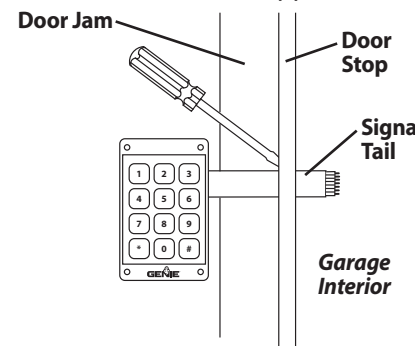
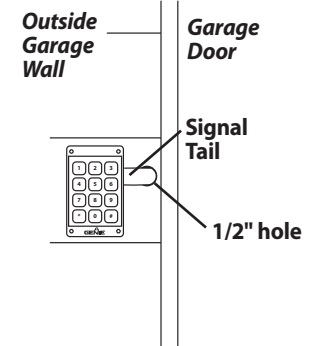

Figure 3
Figure 4
2. For door jam mounting, momentarily pry the door stop away from the jam and slide the signal tail between and into the garage, Figure 3. Secure the code pad to the jam with the four brass screws supplied. CAUTION: JAM MOUNTING SHOULD NOT BE USED FOR ONE-PIECE GARAGE DOORS. For wall mounting, drill a 1/2" hole through the garage wall at the selected location. Carefully insert the signal tail through the hole and into the garage., Figure 4. Be sure you route all connecting wire away from the garage door to ensure it cannot be snagged by the door or door hardware. Secure the code pad to the wall with the four brass screws supplied.